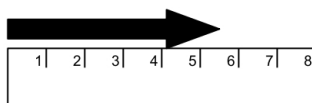

Figure 1: Ruler measuring length of arrow
**The Uncertainty in an Analog Scale** The simplest measurement one can make is comparing an object to a scale like a ruler. Here we will look at analog scales, or scales where the values aren’t displayed digitally. Look at Fig. 1 below. If we assume the edge of the arrow is aligned with the edge of the ruler, *and* the edge of the ruler represents the zero of the ruler’s scale, then what is the length of the arrow? Since the tip of the arrow lies between the markings on the ruler, we have to *interpolate* the position of the arrow tip. A reasonable value for the length of the arrow may be 5.5 cm. How do we choose a reasonable *estimate* of the uncertainty? I stress the word estimate